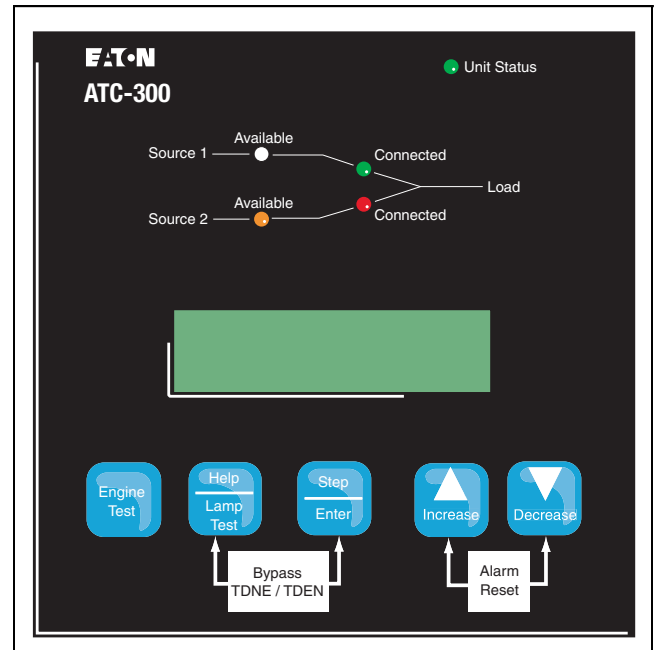

Figure 52. ATC-300 Logic.
Step 9: Initiate a Load Test from the front panel of the ATC-300 (see Figure 52). This may be done by setting the engine test setpoint to: